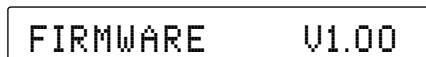

Figure 2
2. Press the SETUP Push-button repeatedly until the Front Panel Information Display indicates “Firmware V1.00” or higher. Refer to figure 2.